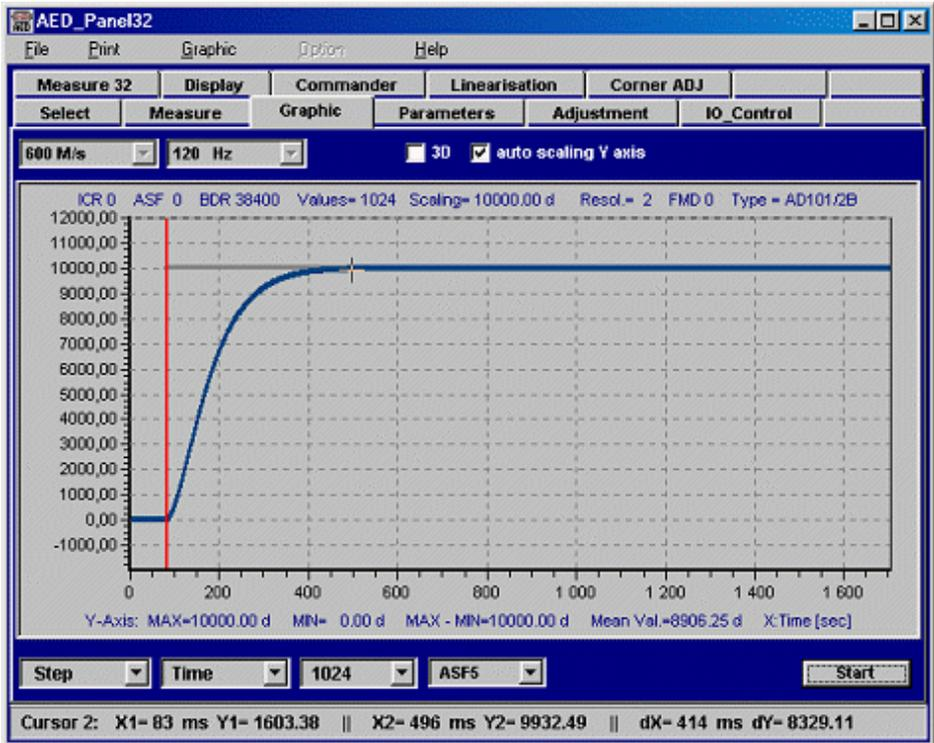

Fig. 5.8 Input step function and step response of the 'post' filter (ASF5, FMD0)
- You can now determine the settling time with the cursor (Fig. 5.8)